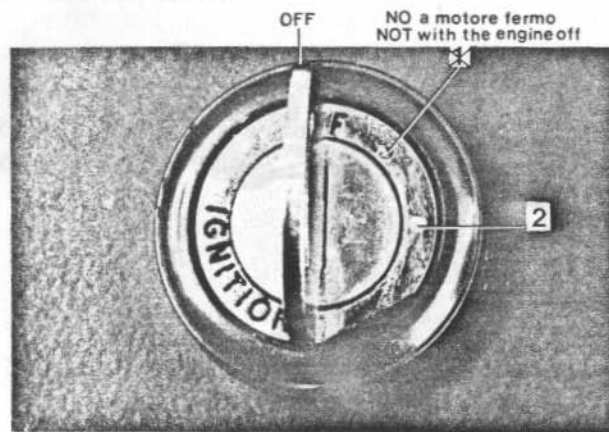

Fig. 1
La chiave situata al centro del cruscotto ha 3 posizioni (Fig. 1):
The ignition key fitted in the master switch, located in the center of the instrument panel, has three positions (Fig. 1):
1. Colloca il pannello di comando di comando 2 per il motore (Fig. 1).
The ignition key is located in the starter switch, located in the center of the instrument panel (Fig. 1).